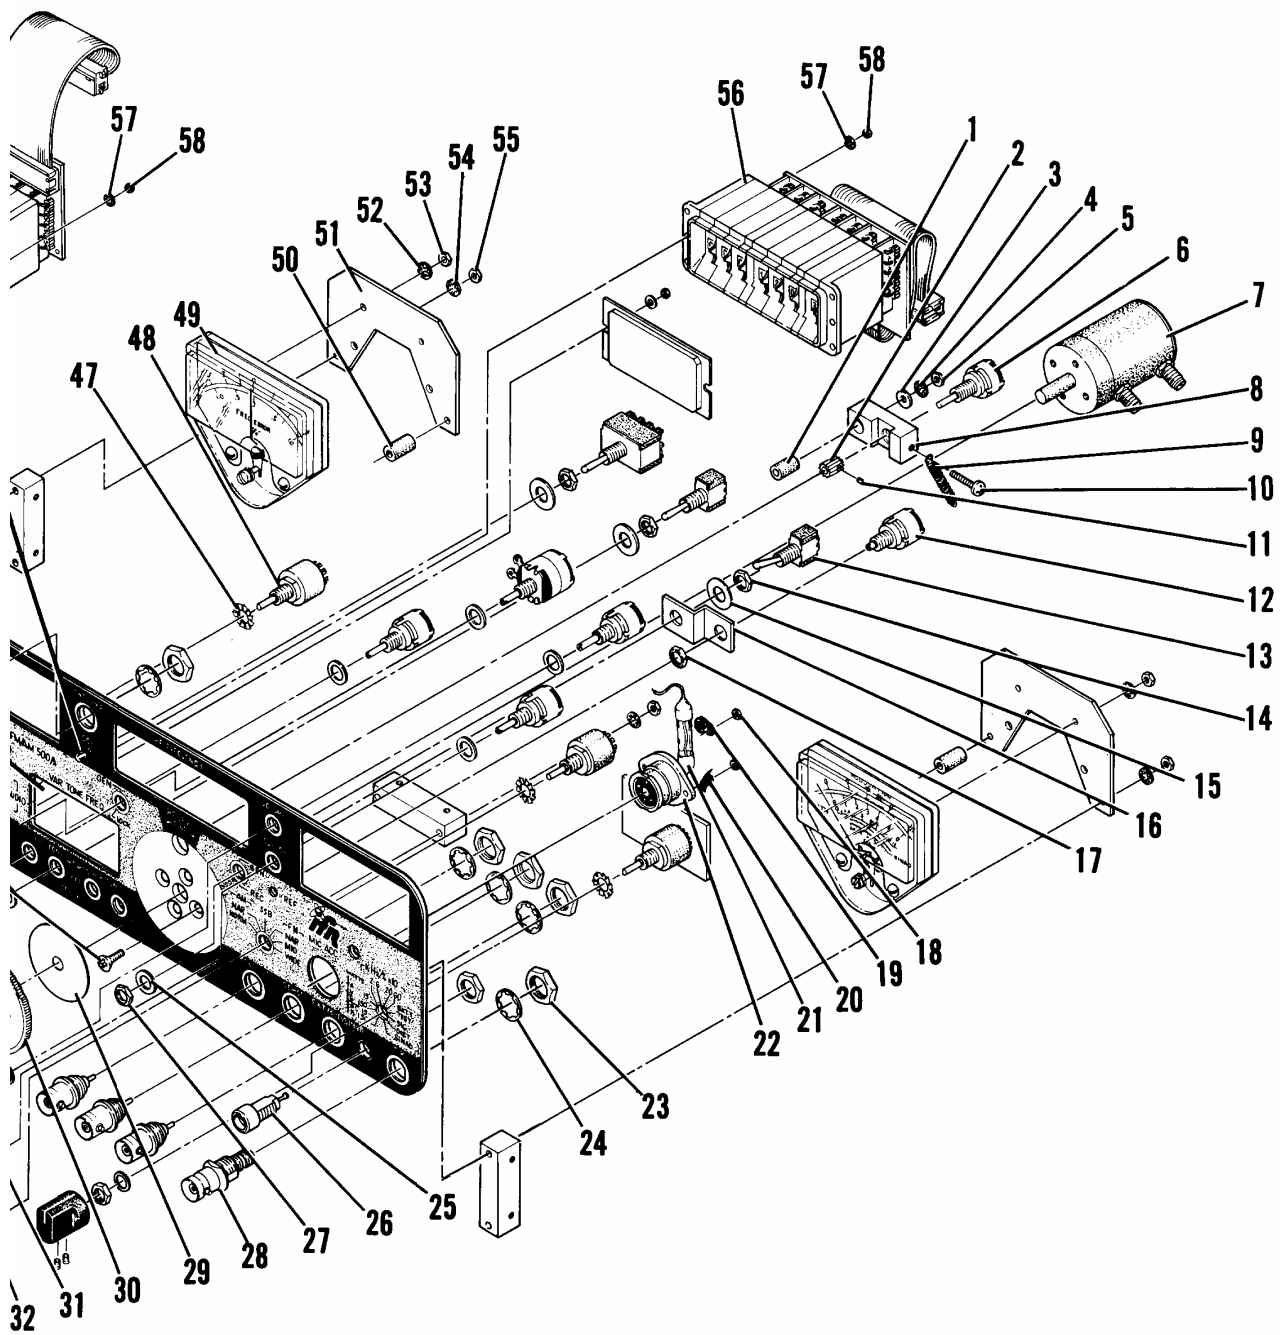

Figure 6-8 Front Panel Assembly
3. Remove one screw (37) securing each side of chassis to Front Panel (35).
4. Slide Front Panel (35) out of chassis (33) and disengage ribbon cable connectors from Mother Board (39).
5. Disconnect semi-rigid coaxes from T/R connector (Figure 6-8, Item 26) and step attenuator (Figure 6-8, Item 7).
6. Identify and unsolder two wires (in wrapped two-wire bundle running to chassis) from Power Switch (34).
B. Disassembly (Figure 6-8)
1. Remove MIC/ACC Connector (22).
- a. On FM/AM-500A only, unsolder fuse (21) from MIC/ACC Connector (22).
- b. Tag and unsolder leads to connector (22).
- c. Remove two nuts (18), one terminal lug (19) and one lock washer (20), then withdraw connector (22) from Front Panel (46).
2. Remove BNC (28) and Generate Amplifier power (26) connectors.
6-3-1 RF LEVEL ATTENUATOR (Figure 6-8)